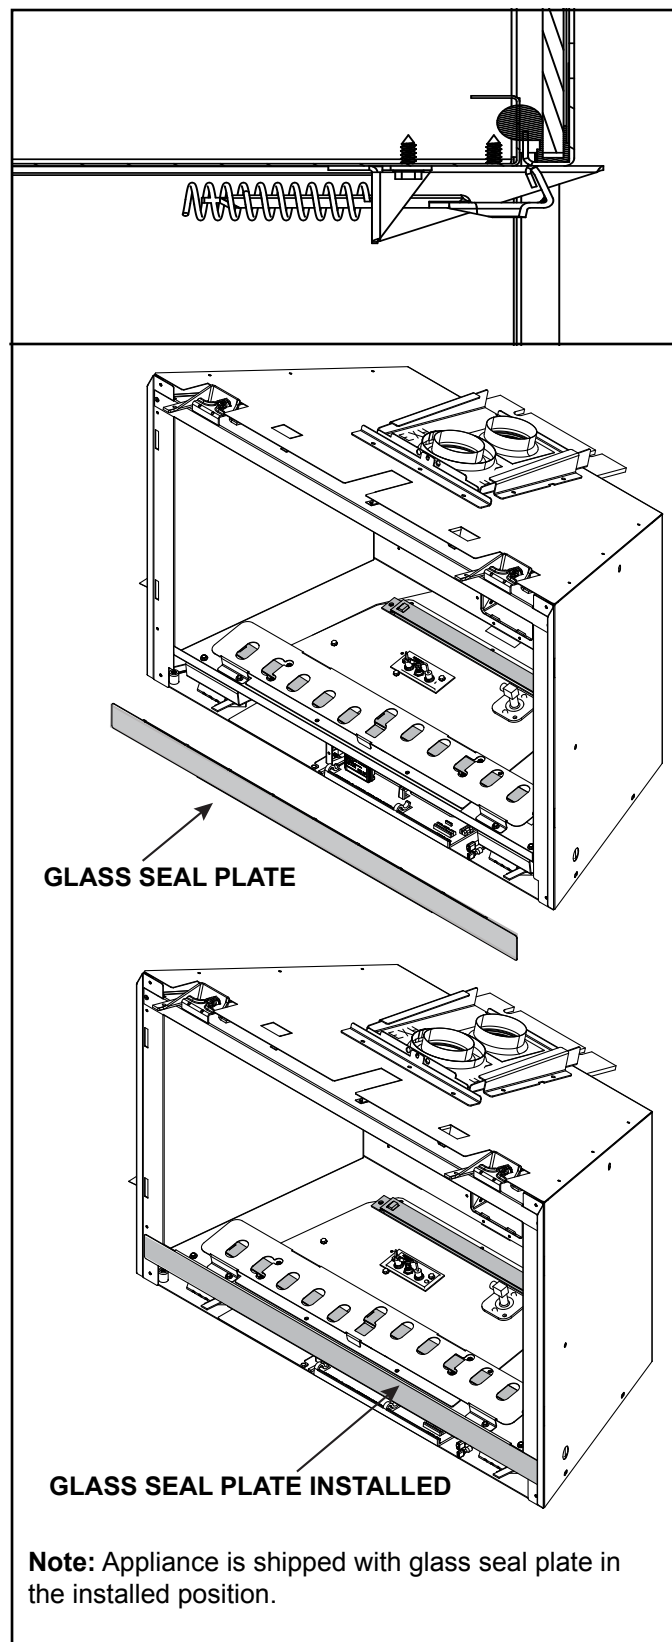

Figure 9.2 Glass Seal Plate
- The glass assembly fastens to the fireplace in four places. Four of the fastening mechanisms are spring-loaded glass latches. An example of the glass latch is shown in Figure 9.2.
- Verify Glass Seal Plate is properly installed. See Figure 9.2.